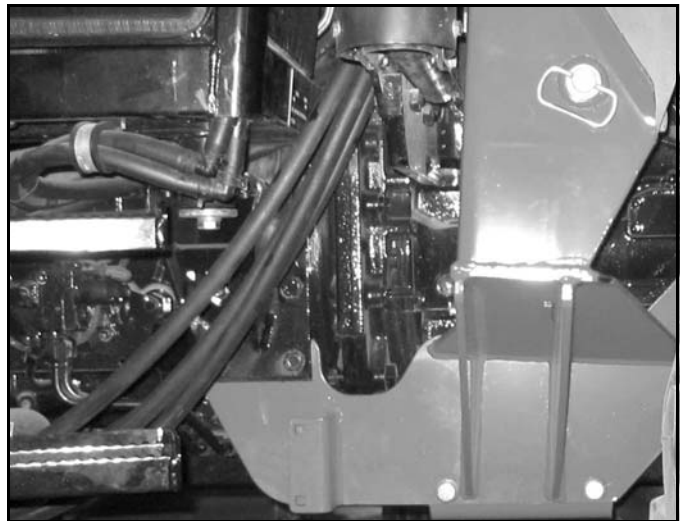

Figure 16. Hose Routing
1. Route hoses along right mount, between cab and tractor exhaust, under cab, and over right rear axle. See Figure 16